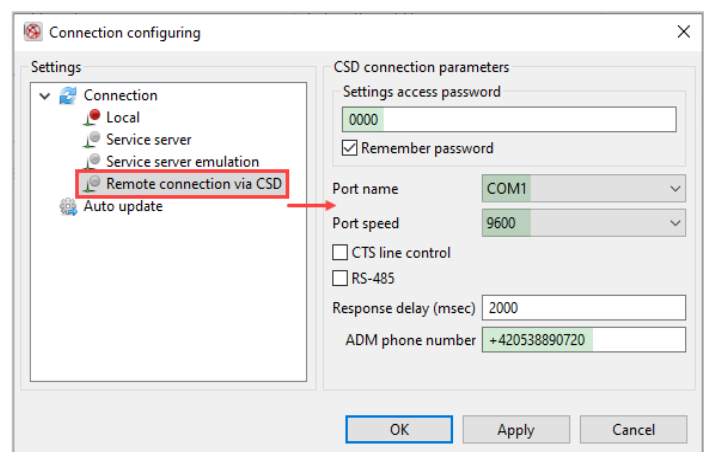

Fig. 20. Configuring CSD connection.
5. Go to **Connection settings** menu . In the left part of the window, select the **Remote connection via CSD** and enter the connection parameters: name and speed of the connected modem virtual COM port, access password and ADM modem phone number, where the CSD call will be directed (Fig. 20). Click **OK**.